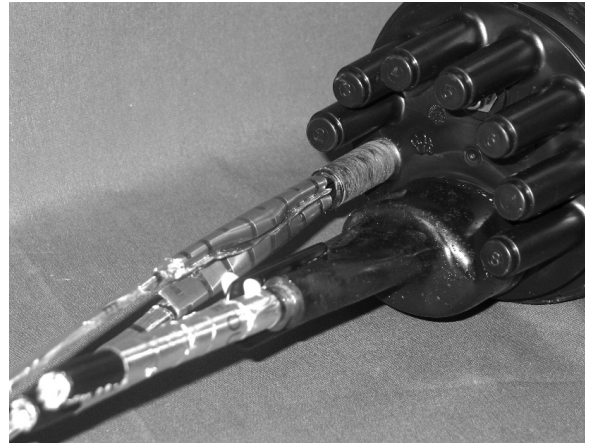

Figure 8
- Place the aluminum tape against the SCOP and wrap one lap of aluminum tape around each cable. The blue line on the tape should be positioned closest to the closure (Figure 8).